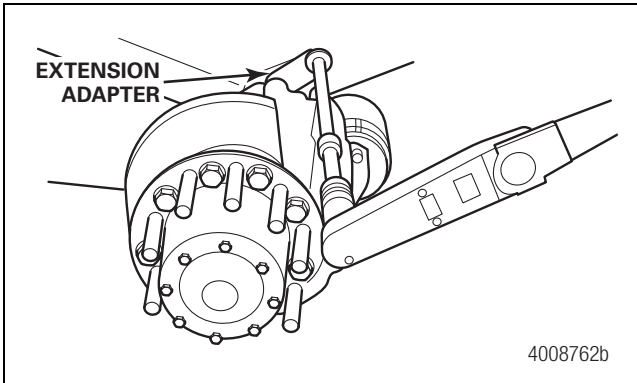

Figure 6.6
- Use an appropriate size socket wrench (or extension adapter MST225 5001 if required), to tighten the carrier bolts to the torque values specified in Section 10. Figure 6.6.